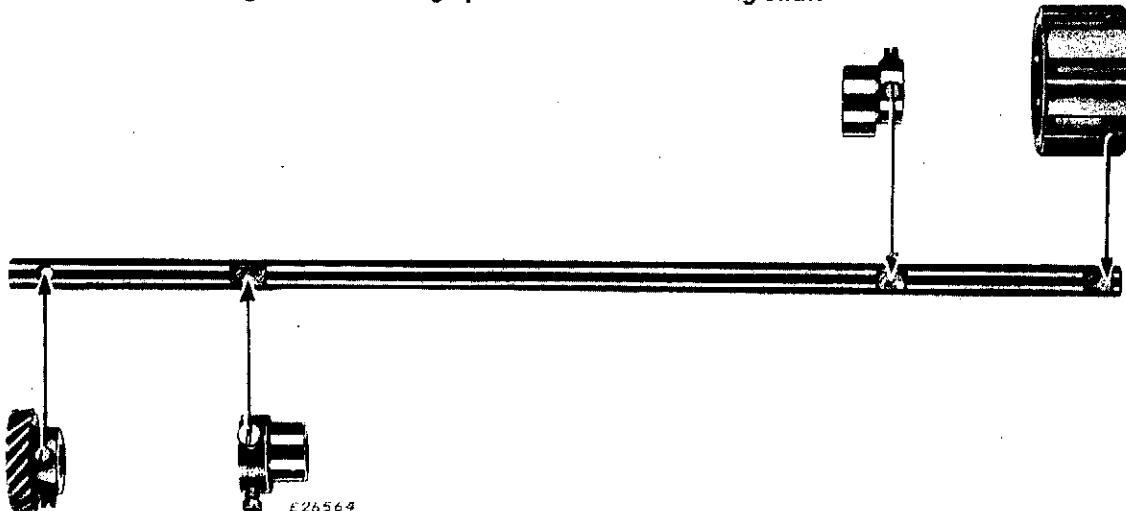

Fig. 243. Location of Gear, Eccentrics and Sprocket on Hook Driving Shaft
**CAUTION:** To locate eccentrics and sprocket properly, refer to Fig. 243.